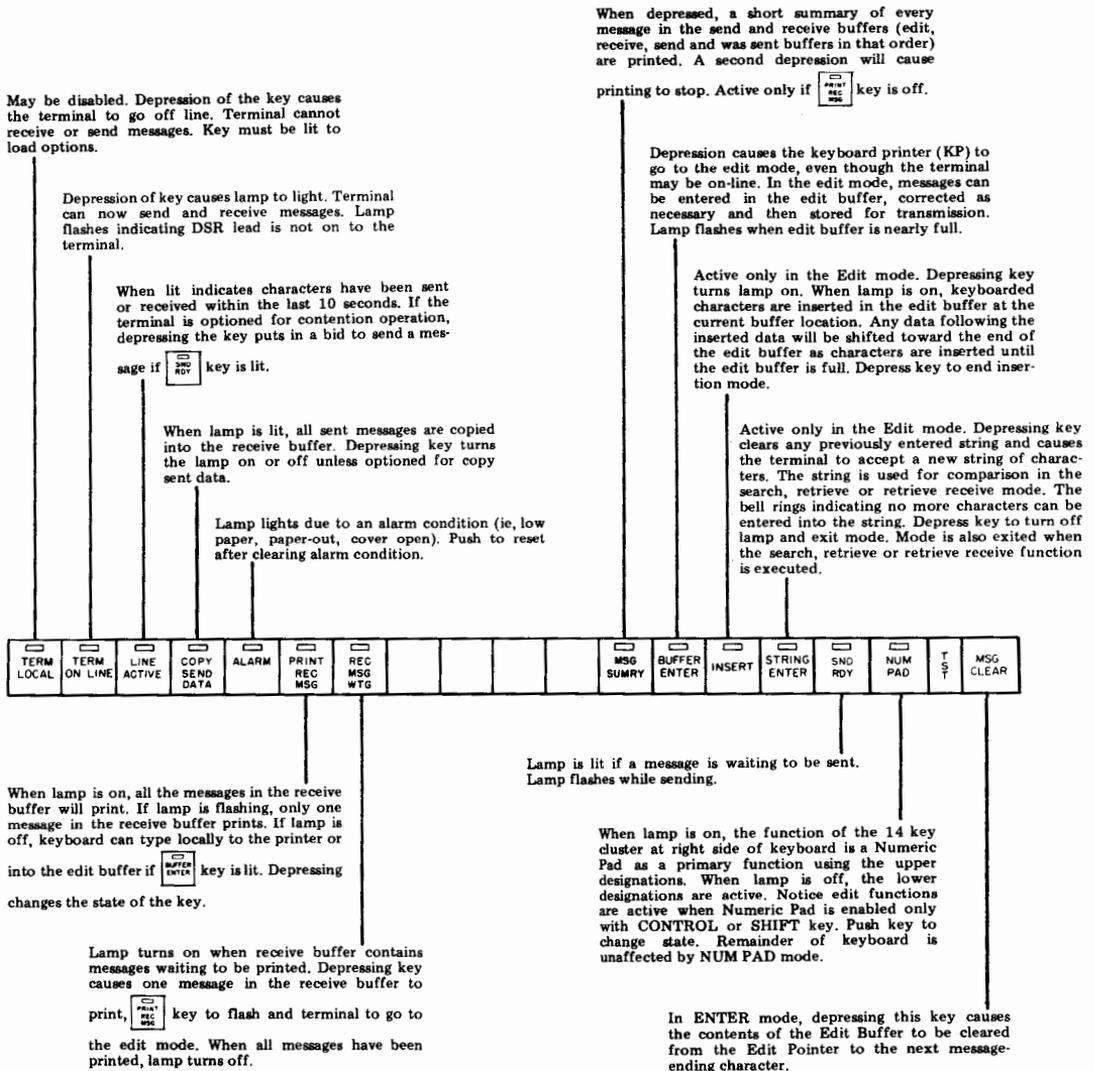

Fig. 3—Controls and Indicators
3.02 The controls and indicators are described in Fig. 3.